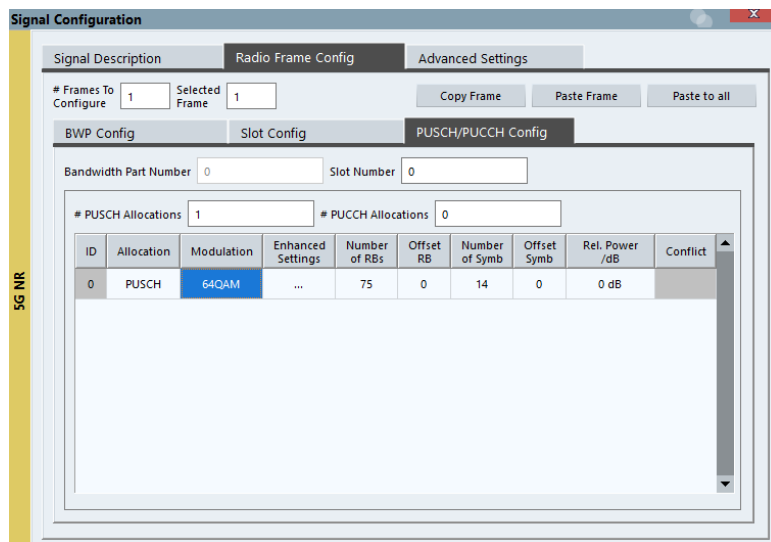

Fig. 2-37: PUSCH/PUCCH configuration settings in Radio Frame Config menu
- I PUSCH/PUCCH needs to be configured as shown in Fig. 2-37